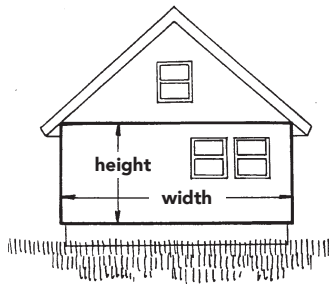

Figure 9. Wall areas
- The area to be sided can be determined by measuring the height and width of the house, including windows (Figure 9).